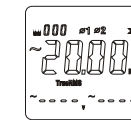

Figure 8-8
- Measurement operation of the 1st and 2nd phase locations is the same as that of three-phase four-wire system. As shown in Figure 8-8, total three-phase apparent power can be displayed by pressing SELECT key after tripping the 3rd phase location of measurement.